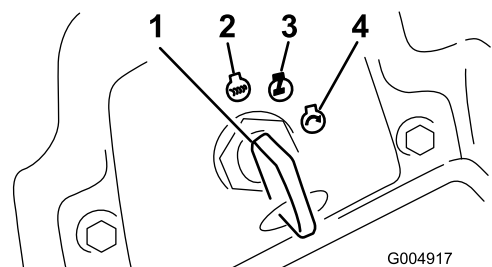

Figure 44
6. Turn the ignition key clockwise to the Run position (Figure 44).
4. Turn the ignition key to the Off position (Figure 44). Wait for all moving parts to stop before leaving the operating position.